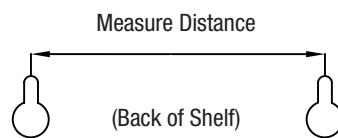

Figure 1
**STEP 2:** Draw a line on the wall using the level in order to determine where the screw holes will be located. Measure the distance that will be required between the screws in order to mount the decorative ledge. Mark the positions of the screws in the desired locations as shown in **Figure 1**.